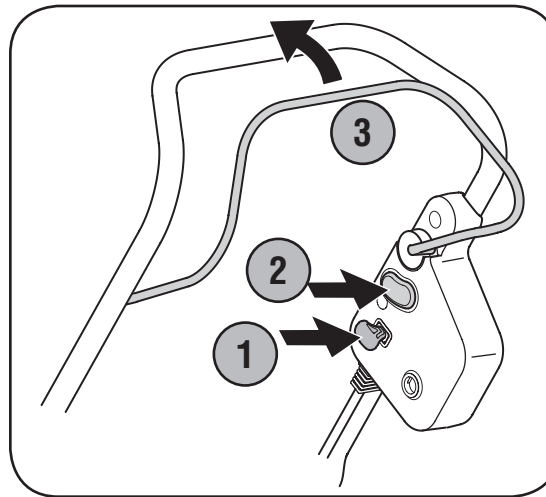

Figure 4-3: Starting the motor and blade.
1. Insert key. Refer to Figure 4-3.